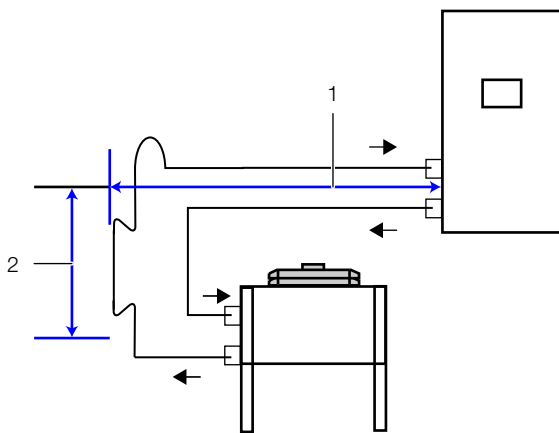
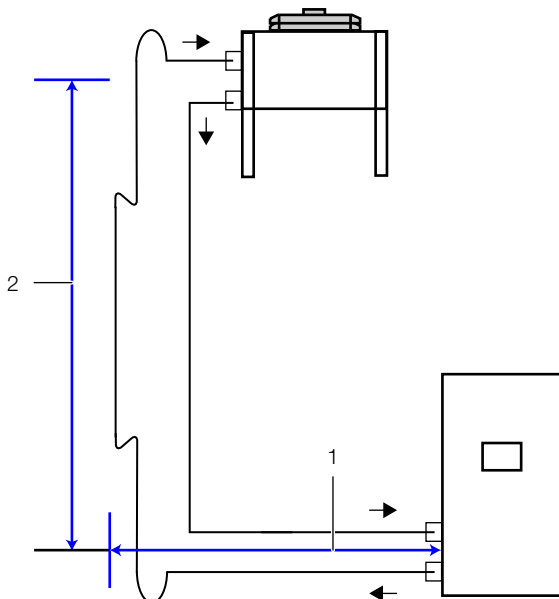

Fig. 11: Relative positioning condenser below the LCP DX
Fig. 12: Relative positioning above the LCP DX
Sum total of horizontal (fig. 11, item 1) and vertical spacing (fig. 11, item 2 or fig. 12, item 2) between the LCP DX and the condenser	Max. 45 m overall equivalent length
Condenser above LCP DX (fig. 11, item 2)	max. 20 m
Condenser below LCP DX (fig. 11, item 2)	max. 3 m